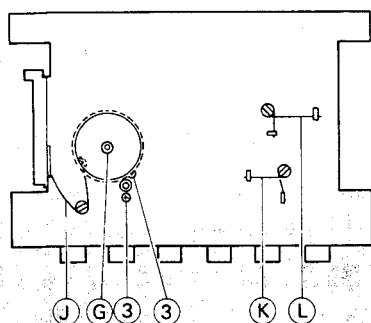
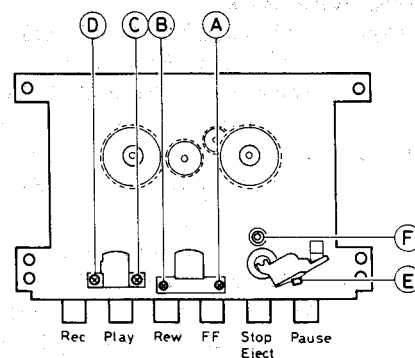
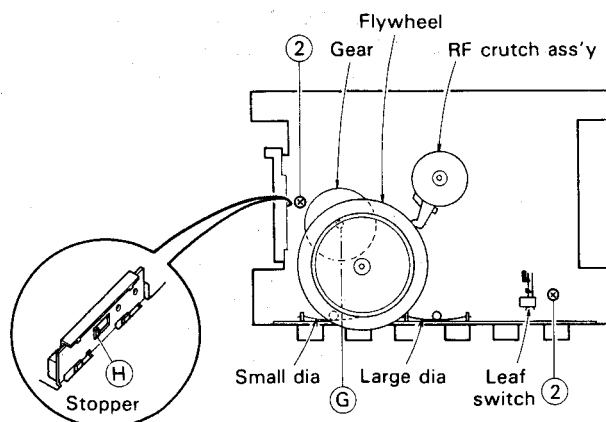

Fig. 2-17
Fig. 2-14
Fig. 2-16
■ Head section (Fig. 2-14)
- 1) Remove the record/playback head's mounting screw ① and loosen screw ②.
- 2) Remove the erase head mounting screw ③ and ④.
■ Pinch roller (Fig. 2-14)
- 1) Remove the pinch roller arm stopper ⑤.
■ Flywheel ass'y (Fig. 2-14, Fig. 2-16)
- 1) Remove the C washer ⑥ securing the capstan shaft.
- Gear (Below the flywheel) (Fig. 2-16, Fig. 2-18)
- Lock arm (Fig. 2-16)
- Chassis removal (Fig. 2-16, Fig. 2-17)
- 1) Remove the three ⑨, ⑩, and ⑪ springs.
- 2) Remove the two screws ⑫.
- 3) Remove the two screws ⑬ securing the capstan metal.